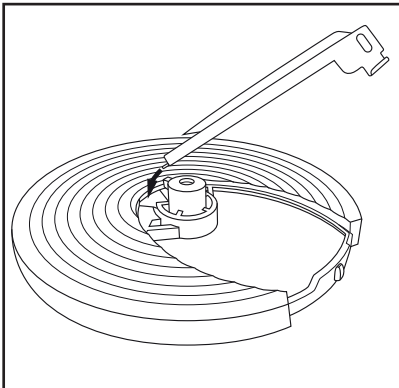
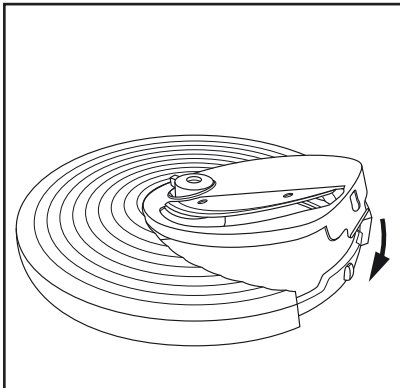

Fig. 1
Fig. 2
- insert the new disk with the narrower side first into the recess in the disk adapter 13 (Fig. 1) and push the disk firmly downwards so that it engages and is firmly seated (Fig. 2).